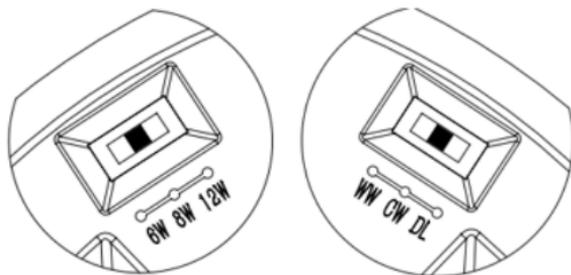

Fig. 5
- Select the required colour temperature and wattage via the three-position switches on the rear of the luminaire (see Fig. 5)